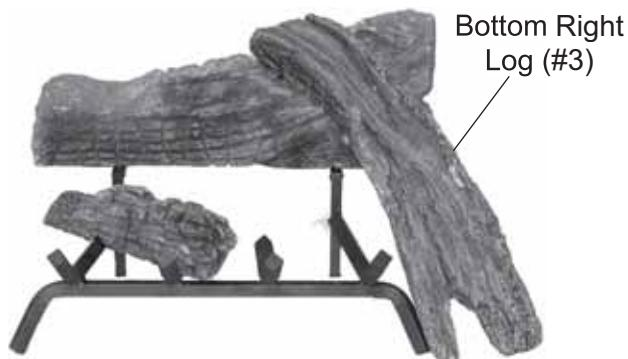

Figure 71 - Placing Bottom Right (#3) Log on Grate
4. Place end of Bottom Right Log #3 on cutout of back log #1. Rest other end of right bottom log to the outside of right grate prong. *See Figure 71.*